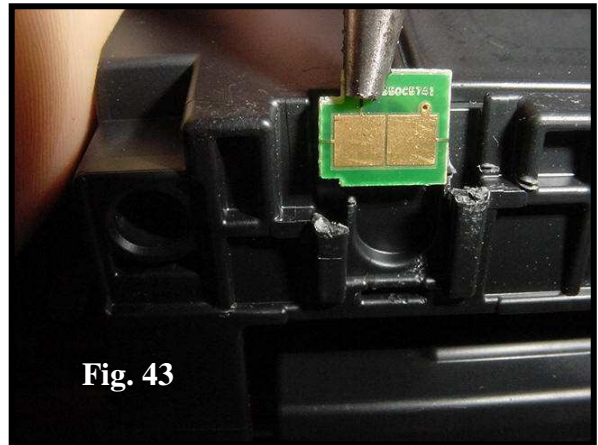

Fig. 43
43. Remove OEM chip and replace with the proper aftermarket chip (Fig.43).